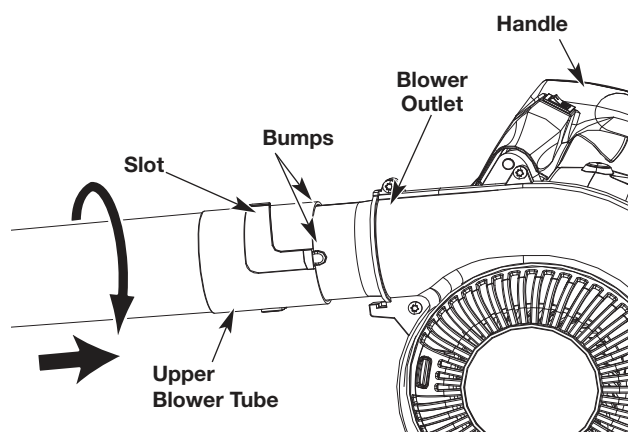

Fig. 1
1. Align the slots on the upper end of the upper blower tube with the bumps on the blower outlet (Fig. 1).
2. Install the upper blower tube onto the blower outlet (Fig. 1).
3. While holding the handle, twist the upper blower tube clockwise until it locks into place (Fig. 1).